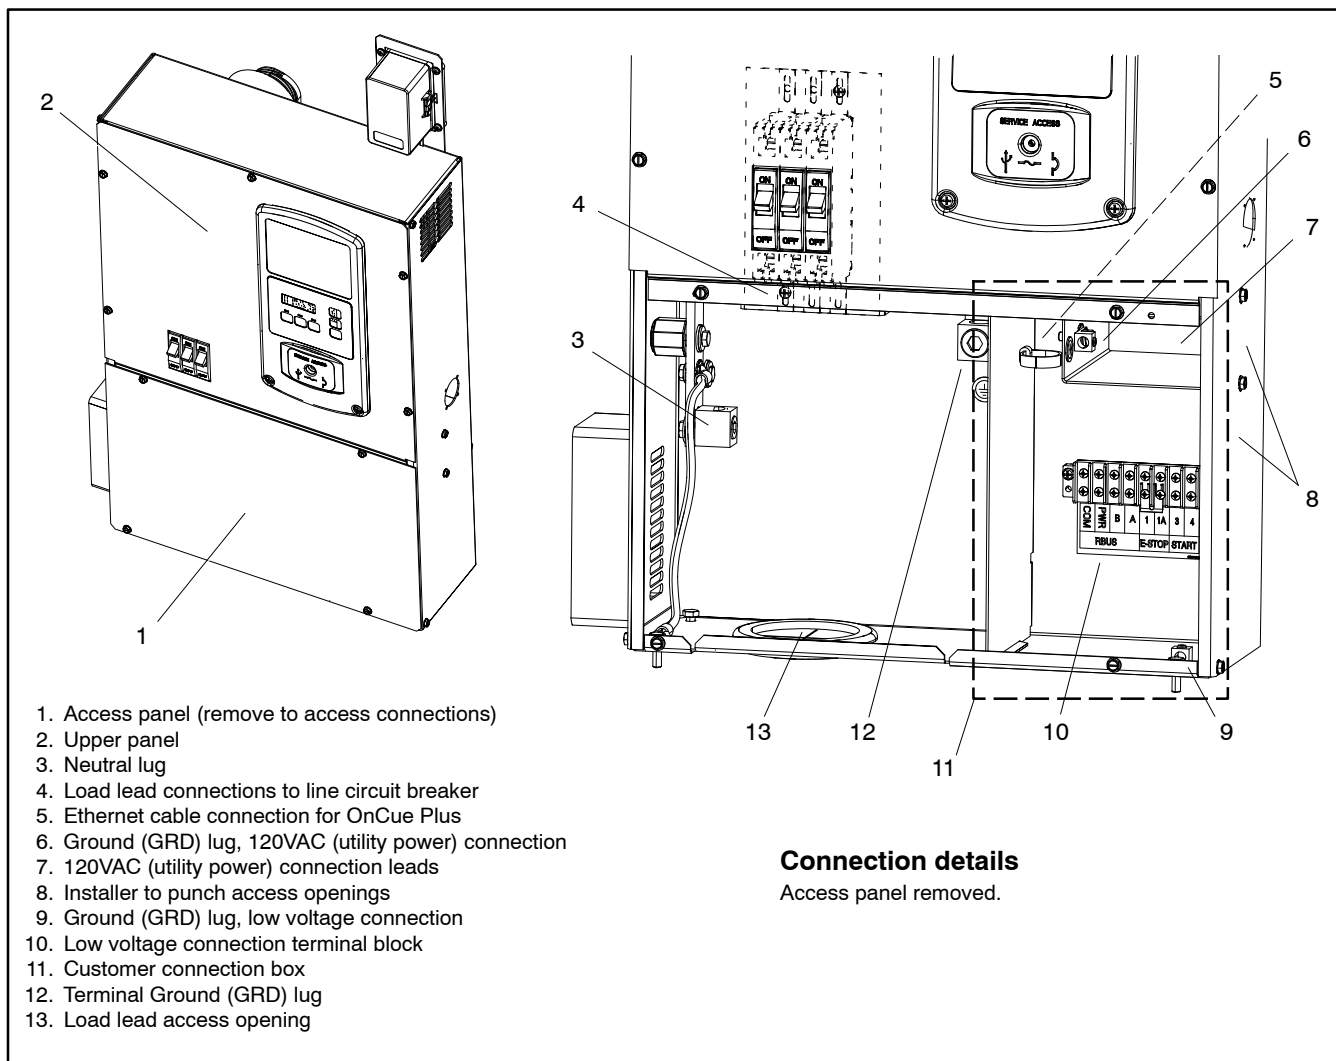

Figure 1-10 Generator Set Connections
Ground the generator set. The grounding method must comply with NEC and local codes. Connect the grounding strap to the generator set ground lug, terminal GRD inside the junction box (see Figure 1-10). Connect the grounds for utility and low voltage connections to the ground lugs provided in the customer connection box for those specific connections (see Figure 1-10).
Connect power to the leads in the utility power connection area shown in Figure 1-10. See the wiring diagrams in Section 4 for connection details. See Figure 1-9 for the power requirements for the battery charger and accessories.
See Figure 1-10. Make all AC and DC customer connections inside the customer connection box. Do not remove the upper panel or make connections inside the upper area of the junction box. Refer to the wiring diagrams in Section 4.
1. Route the load leads into the junction box through the access opening in the bottom of the box. Connect the load leads from the line circuit breaker in the generator set junction box to the transfer switch emergency power connection points. See Figure 1-10 and refer to transfer switch installation manual for ATS connection instructions.
3. Cut or punch openings in the side of the connection box for the 120 VAC power supply leads and the low voltage connections. See Figure 1-10. Use separate conduit for the power leads and the low voltage leads.
4. Connect utility power for the controller's battery charger. Connect to a circuit that is supplied by the utility source and backed up by the generator. See Section 1.4.5 and Figure 1-10 for more information about the utility power requirement.
1. Customer connection terminal block. See Figure 1-10 for location. Check the decal on the generator set for terminal block connections.